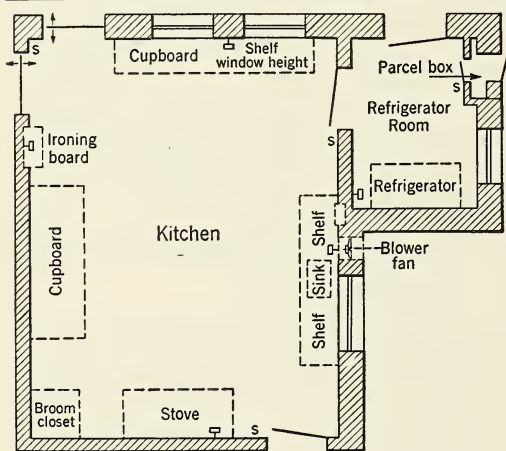

FIG. 9-4. Every kitchen should be planned so that the person who has to work in it does not grow tired from walking.
h) The modern kitchen may best be discussed if we refer to the larger scale plan of the kitchen which is shown in Figure 9-4.